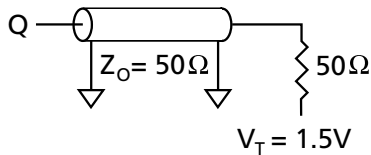
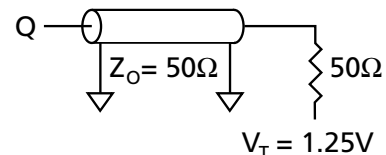

Figure 1
Figure 3
1. Test conditions as specified with the output loading shown in Figure 1 for 3.3V I/O (V_{DDQ} = +3.3V +0.3V/-0.165V) and Figure 3 for 2.5V I/O (V_{DDQ} = +2.5V +0.4V/-0.125V) unless otherwise noted.
Output load See Figures 1 and 2
Output load See Figures 3 and 4